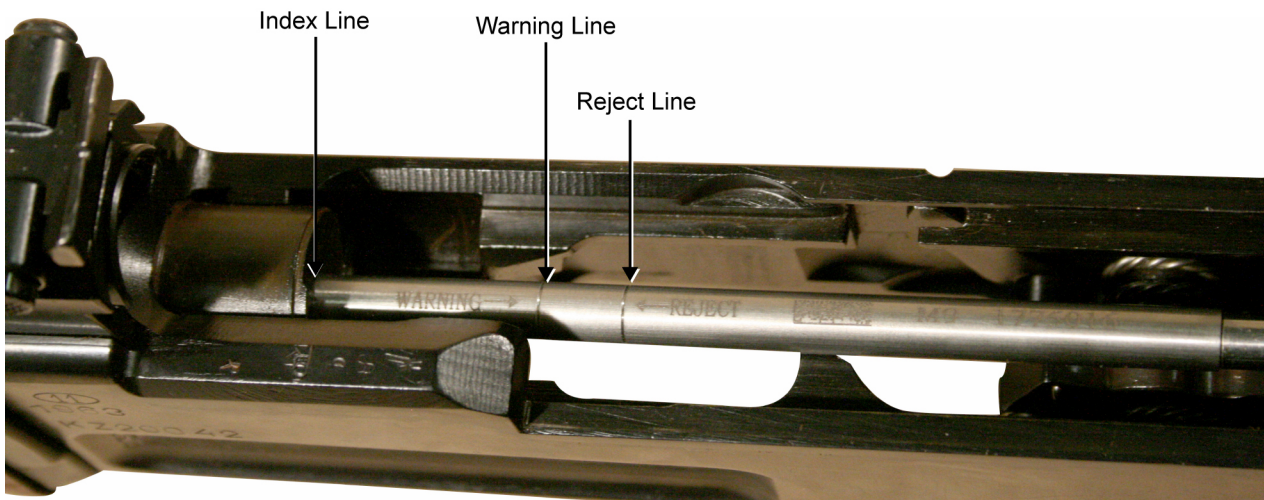

Figure 7. Bore Erosion Gage Warning and Reject Lines.
3. The first line of the bore erosion gage is the warning line. If the bore erosion gage goes into the index line past the warning line, more frequent gaging should be conducted. Refer to Figure 7.
4. The second line of the bore erosion gage is the reject line. If the bore erosion gage goes into the index line past the reject line, the barrel is defective and the weapon needs to be replaced. Refer to Figure 7.